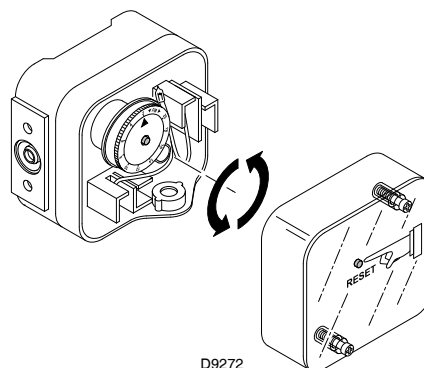

Fig. 48
- Adjust the maximum gas pressure switch (Fig. 48) to the end of the scale.
Adjust the maximum gas pressure switch (Fig. 48) after having performed all other burner adjustments with the maximum gas pressure switch set to the end of the scale.